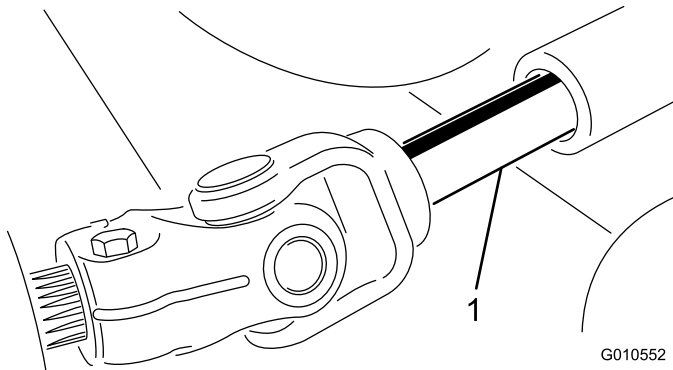

Figure 17
4. Stop the engine and slide the cutting unit away from the traction unit and carrier frame, separating the male and female sections of the PTO shaft (Figure 17).